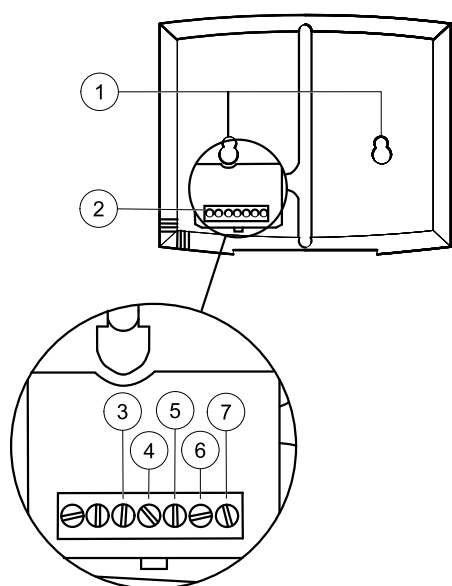

Fig. 16 Control panel wire connections
The control panel is delivered connected to the Corrigo control unit situated in the electrical connection box. Cable length is 32.8 ft. (10 m). In case the control panel needs to be detached from the signal cable it is possible to loosen the wires on the back of the control panel (figure 16).
If needed, drill two holes in the wall to hang the control panel (centre to centre: 2.4" (60 mm)) (pos.1, figure 16).